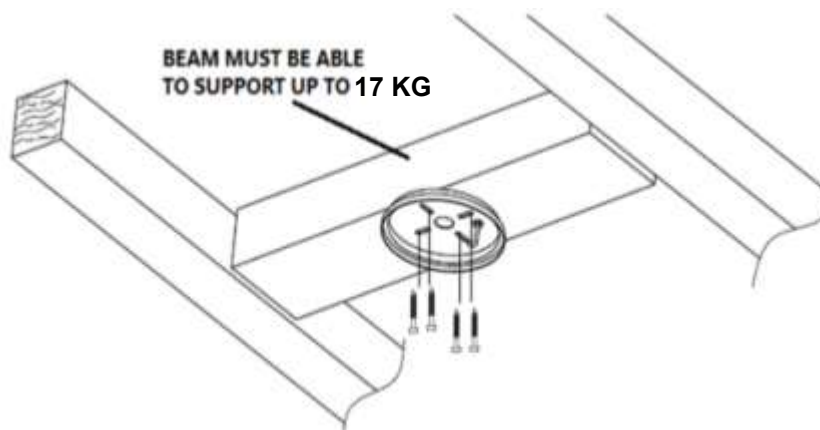

Fig. 2
- Install the hanging bracket to the ceiling joist or structure that is capable of carrying a load of at least 17kg, with 4 long screws provided. Ensure at least 30mm of the screw is threaded into the support. (Fig. 2)